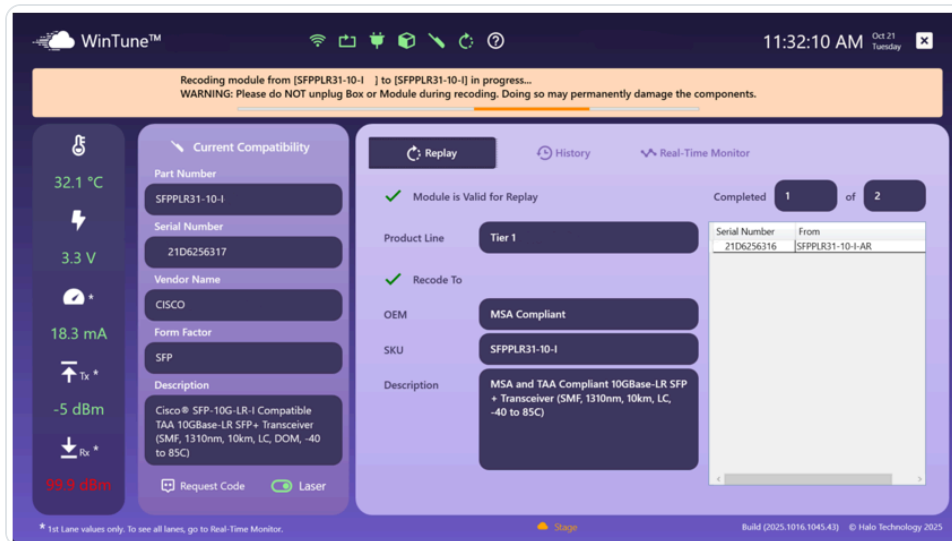

Figure 6 · Auto-Replay session — module valid for replay, batch progress at right
- 6 Swap in the next transceiver. WinTune™ automatically recodes it with the same compatibility code (Figure 6).